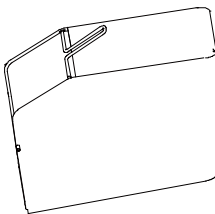

FIG. 4
1. Align and insert the carry handle into the slots of top frame of grass bag until both ends "click" into place (Fig. 4).